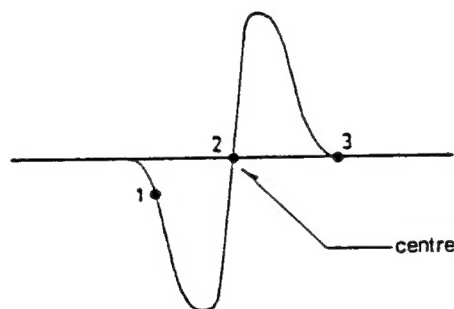

Fig. 12. AFC Response Curve.
2. Adjust T103 for the marker (38.9MHz) of AFC wave form at position. (See Fig.12.) the centre.